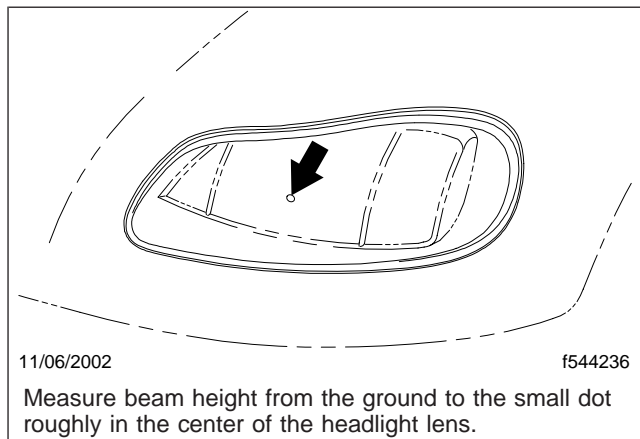

Fig. 15.2, Headlight Beam Height Adjusting Dot
2. On each headlight, find the bulb center. See Fig. 15.2.